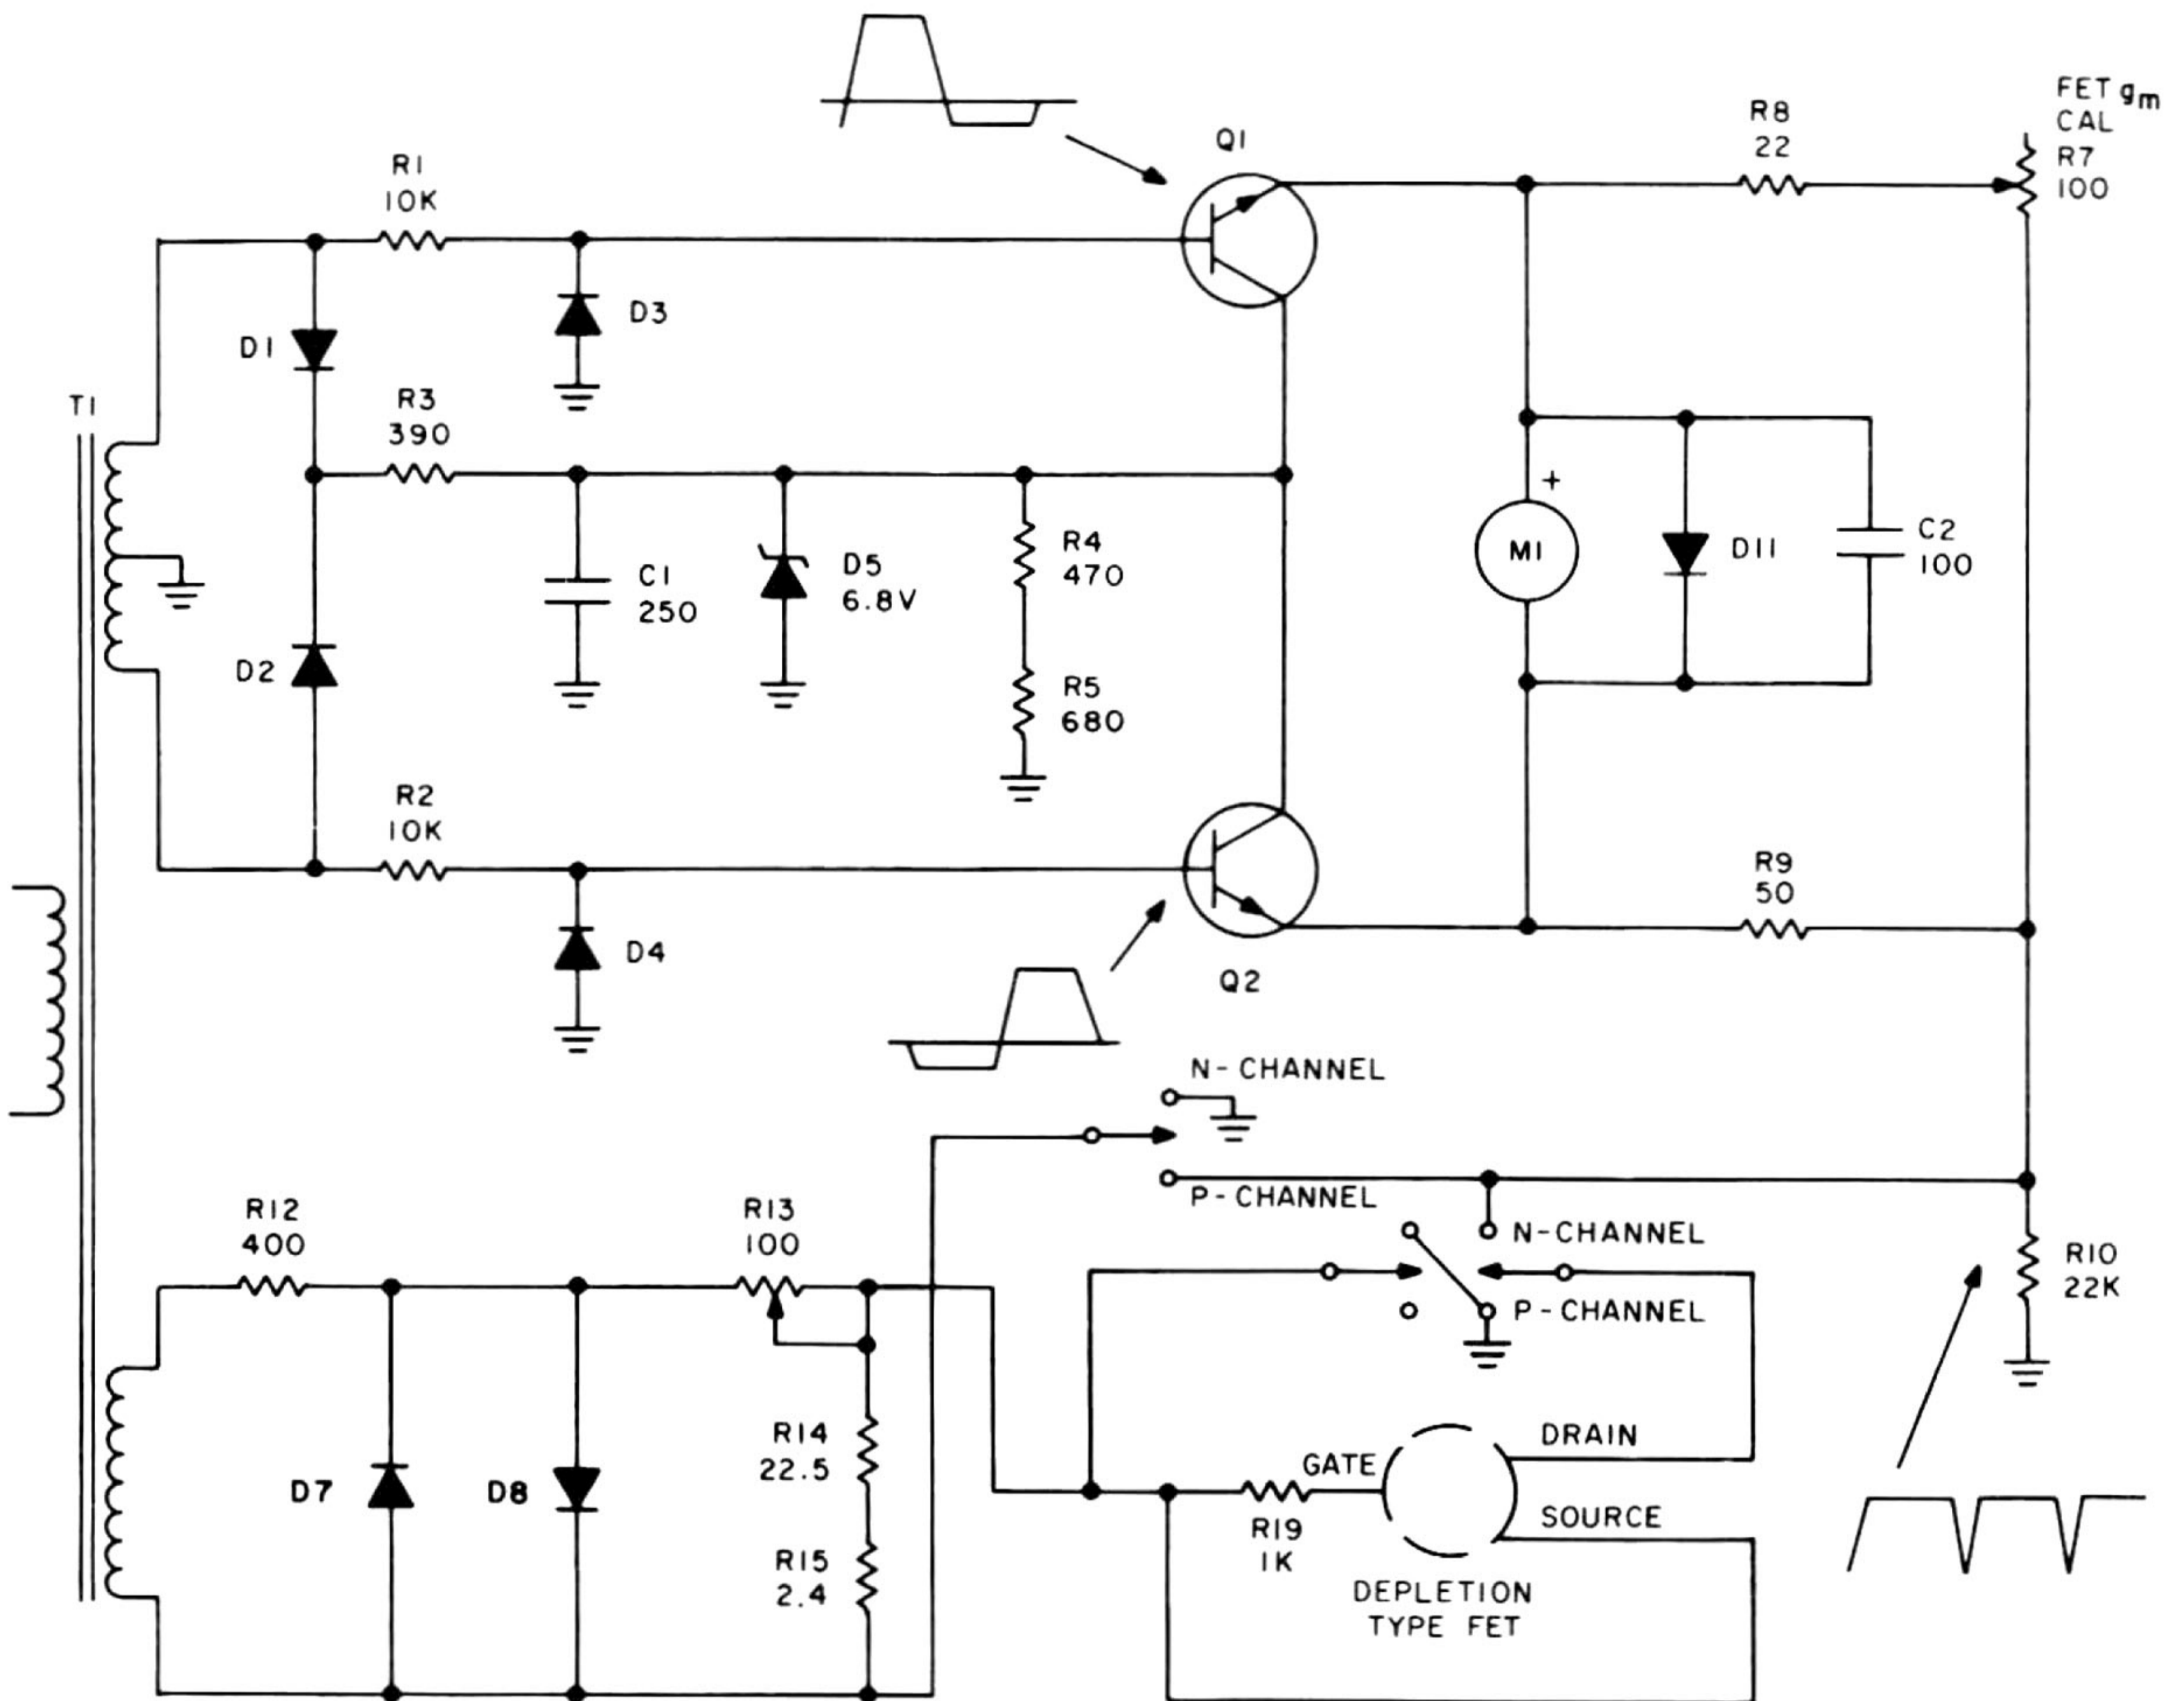

Figure 1A. g_m CAL Circuit, Depletion Mode FET
a. FET g_m Calibration (See figures 1A and 1B.)
When the front panel FET FUNCTION switch is set to the g_m CAL position and a depletion mode FET is being tested, the gate of the FET under test is shorted to the source via R19 (figure 1A). For enhancement mode FET's, the gate is similarly shorted to the drain via R19 (figure 1B). Therefore, the drain current of the FET is controlled mainly by the drain voltage pulses applied from the Q1-Q2 switching circuit. The FET g_m CAL control R7, is adjusted so that equal currents flow through the meter on alternate half cycles. Since equal current flows in both directions, when adjusted, balancing the circuit produces a zero meter reading. This calibrates the FET g_m circuit.